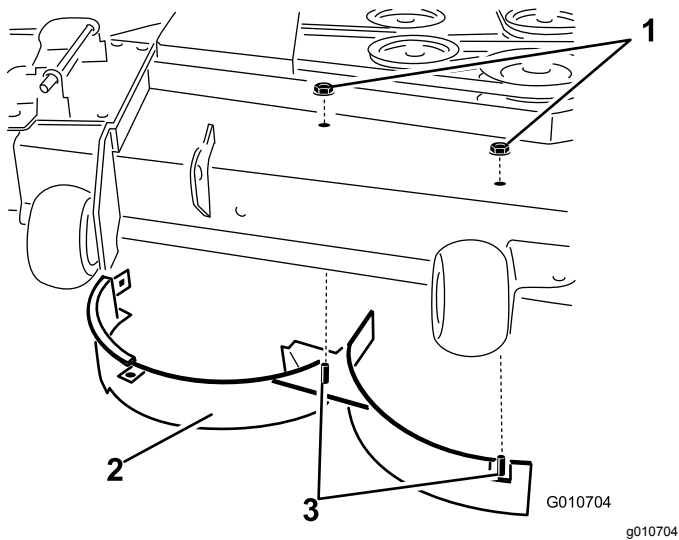

Figure 37
11. Remove the 2 locknuts (5/16 inch) securing the welded posts of the right baffle to the top of the mower deck at center and right of center positions (Figure 37).
12. Remove the carriage bolt and locknut securing the right baffle to the top of the mower deck and remove the right baffle from the mower deck (Figure 37).
13. Install the fasteners removed previously at the front holes in the discharge plate and forward hole in the deck (Figure 37).